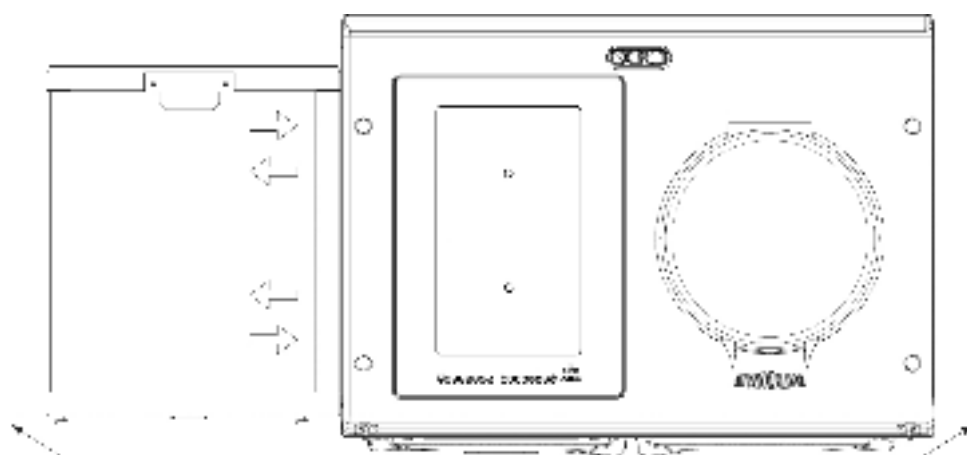

Fig. 5.5
4. Run a straight edge along the front of the AGA eR7i plinth, to ensure the front face of both plinths sit squarely against the straight edge. (**Fig. 5.5**)